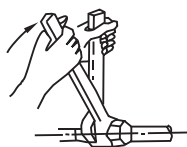

Fig.12-4
- Put the connecting tubing at the proper position, wrench the nuts with hands then fasten it with a wrench. (Refer to Fig.12-4)
- Expel the air with a vacuum pump (Refer to Fig. 12-4) (Please refer to its manual for the way of using manifold valve)